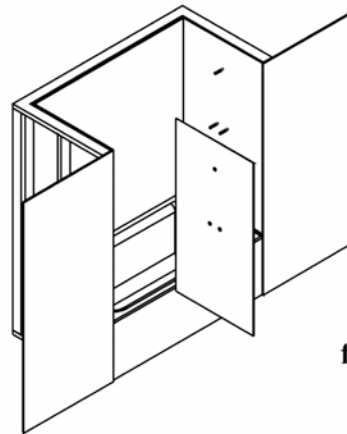

fig 4
5. Mark the side panels for the location of any plumbing fixtures. Drill or cut holes of an appropriate size in the marked locations using carbide tipped drill bits or saws. Drill from the face side and cut from the back side. Cutting can be done on the front side if the surface is protected with masking tape. Allow 1/8" for expansion in wall to wall installations. Always support the panels properly when drilling sanding or cutting. See figure 4.
8. Space lateral (front to back) supports 24" or less. See figure 4.